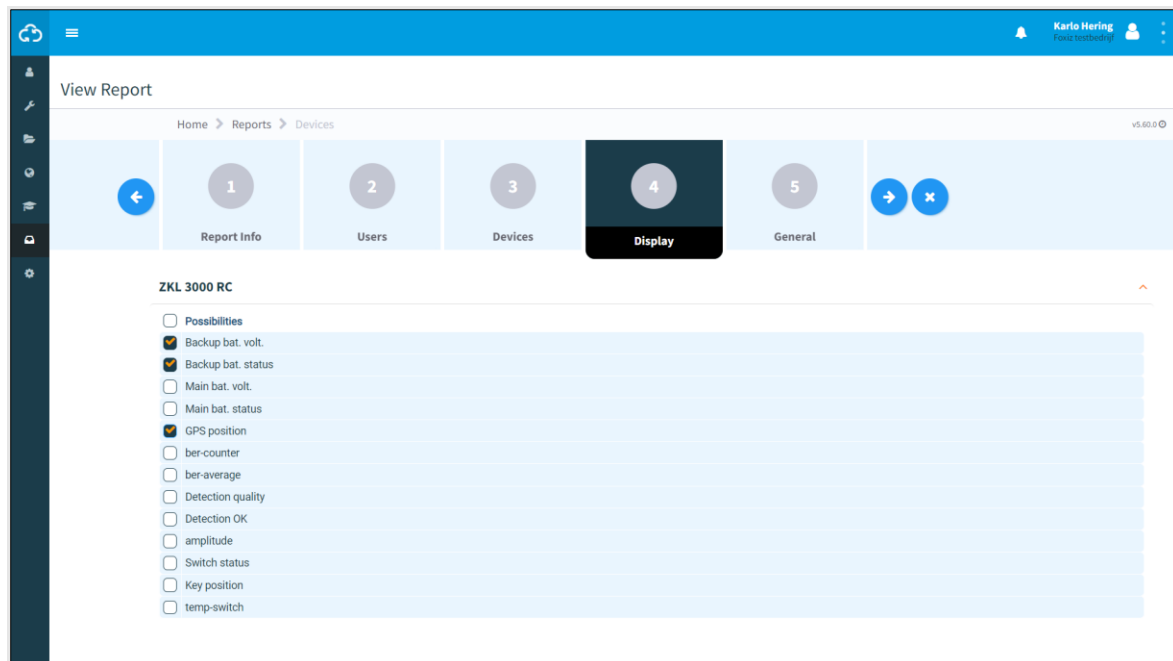

Figure 87 View report - Display
- Step 1 - Devices (Figure 87);